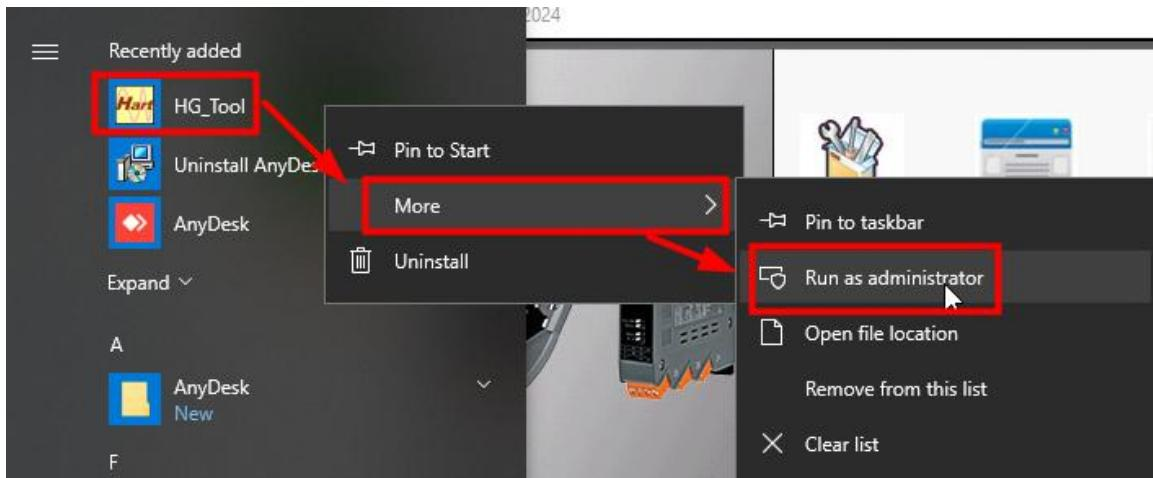

Figure 1-1-1 : Run HG\_Tool with "Administrator"
(1) Run “HG\_Tool” with “Administrator” and connect to I-9720 (Figure 1-1-1).